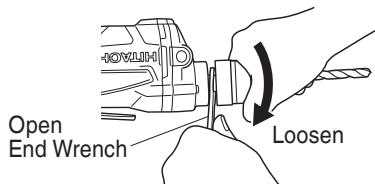

Fig. 3
- If it is hard to loosen the sleeve, fix the spindle using the open-end wrench, hold the sleeve firmly, and turn it in the loosening direction (counterclockwise when viewed from the front). (Fig. 3)